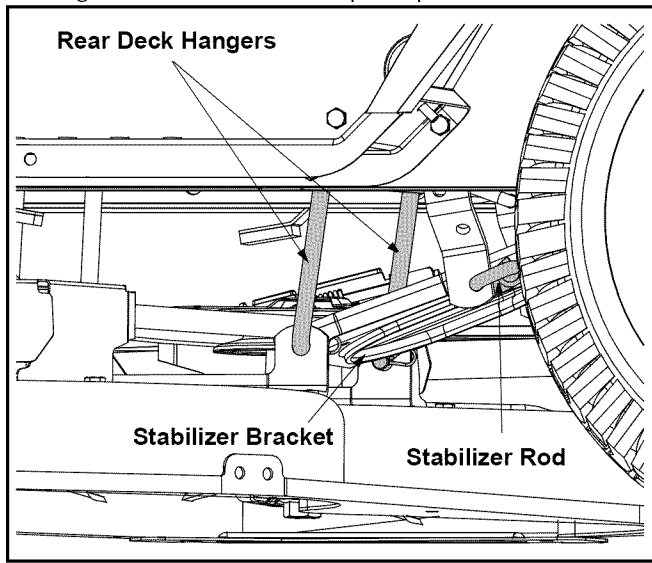

Figure 17
- Remove the hairpin clips which secure the rear deck hangers to the deck stabilizer bracket. See Figure 17. Retain the hairpin clips.
NOTE: The style and shape the stablizer bracket and stablizer rod vary. Yours may differ slightly from that shown in Figure 17.
NOTE: For normal service and maintenance, the deck stabilizer bracket doesn't need to be removed from the tractor. If removing the cutting deck in order to mount a Snow Thrower attachment, however, the stabilizer bracket must be removed. To do so, simply remove the hairpin clip which secures the stabilizer rod to the stabilizer bracket. See Figure 17.